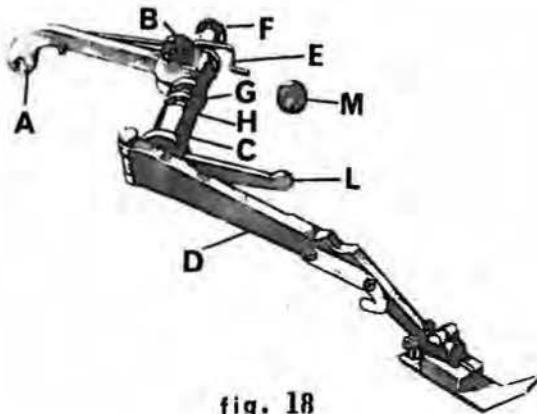
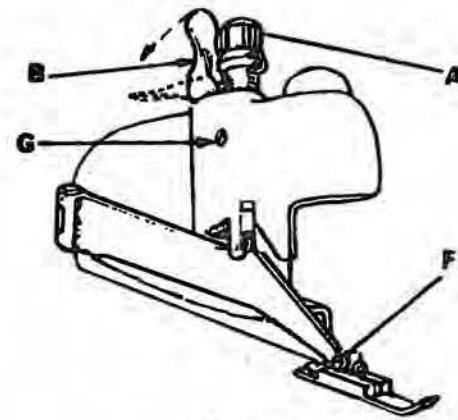

fig. 18
fig. 22
e) Positioning of presserfoot arm (fig. 18)
- Press down on lever 'B' (fig. 22) and swing out presserfoot holder 'D' (fig. 18)
- Loosen slightly screw 'B' (fig. 18) to release spring pressure on lifter lever arm 'A' (fig. 18).
- Lift up lever 'B' (fig. 22) to engage presserfoot holder arm.
- Loosen screw in stop 'M' (fig. 18).
b) Changing the needle (fig. 22)
- 3 - Press down on lever 'B' (fig. 22) and swing out presserfoot holder 'D' (fig. 18).
c) Setting the presserfoot (fig. 22)
- 1 - With presserfoot arm 'D' (fig. 18) locked in position, turn handwheel clockwise till needle point enters presserfoot.
- 2 - Loosen screw 'F' (fig. 22) and center presserfoot in relation to the needle.
- 4 - To increase or decrease the pressure of the presserfoot, loosen screw 'G' (fig. 22) with wrench No. 633-742, and turn knob 'A' (fig. 22).